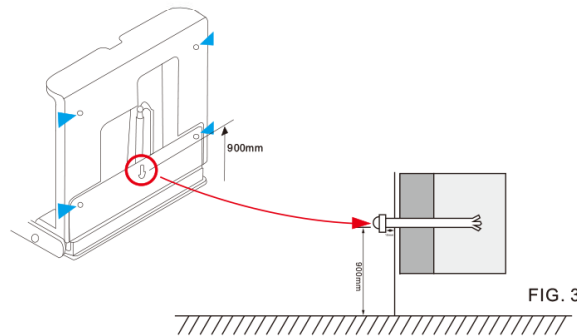

FIG. 3
3. Take out one screw to fix it into the middle hole (18.5CM from both right & left),screw out one centimeter, Hang the baby change station on the screw.(fig3)